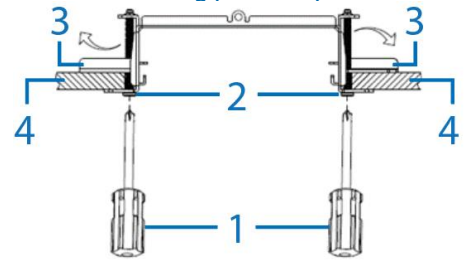

Figure 5
4. Insert the bracket through the hole on the ceiling tile and route the cables through the cable side entry hole on the adaptor plate, and then use a screwdriver (1) (Figure 5) to turn the two bracket screws (2) (Figure 5) clockwise until the two locking arms (3) (Figure 5) extend out fully and sits securely onto the ceiling tile (4) (Figure 5).